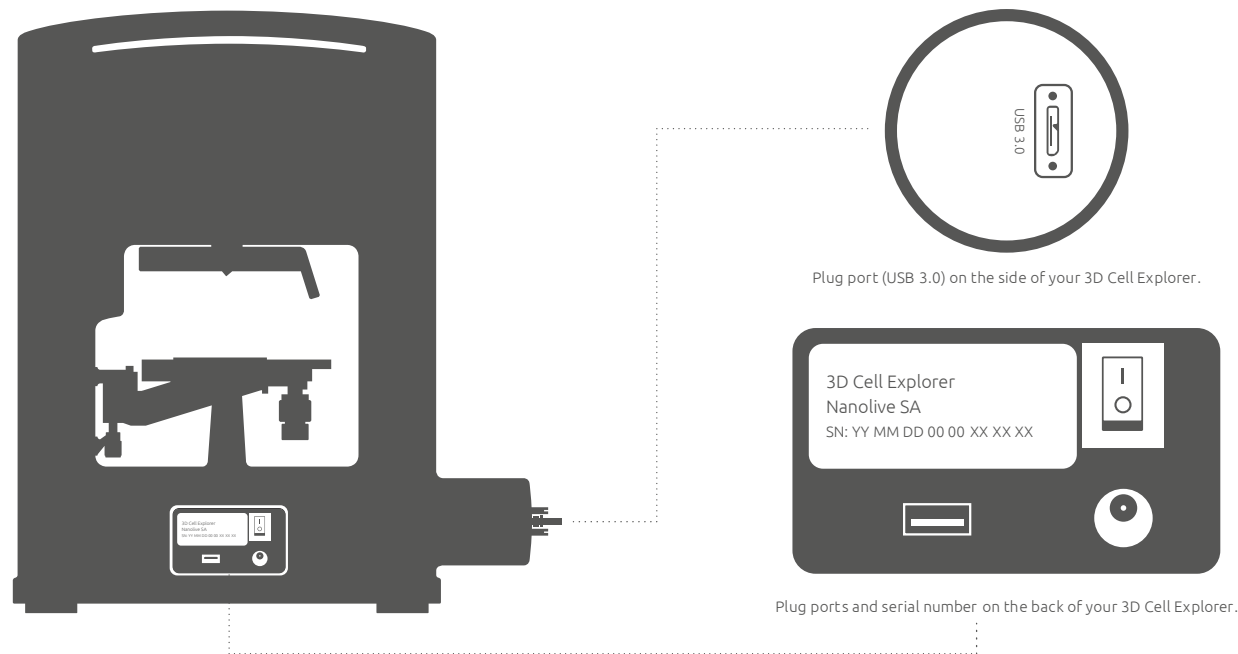

Figure 6: Connecting plugs of the 3D Cell Explorer
- When requested, insert the serial number (You can find your serial number on the backside of your 3D Cell Explorer, see Figure 6 bottom right).